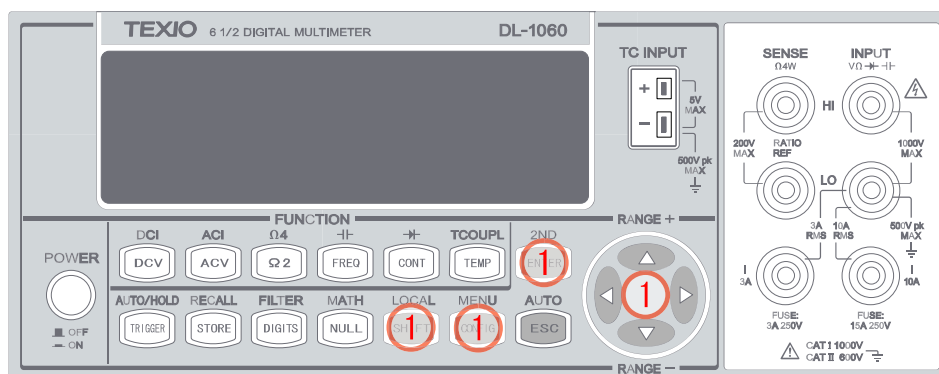

Figure 3-39
1. Do the procedure SHIFT + CONFIG > SYSTEM > SYSTEM VER > ENTER to check the DL-1060's firmware version. The multimeter gives three numbers in xx-xx-xx format on the display. The first number is the firmware revision number for the measurement microprocessor; the second number is for I/O processor and the third number is for the front-panel processor as shown in **Figure 3-39**.